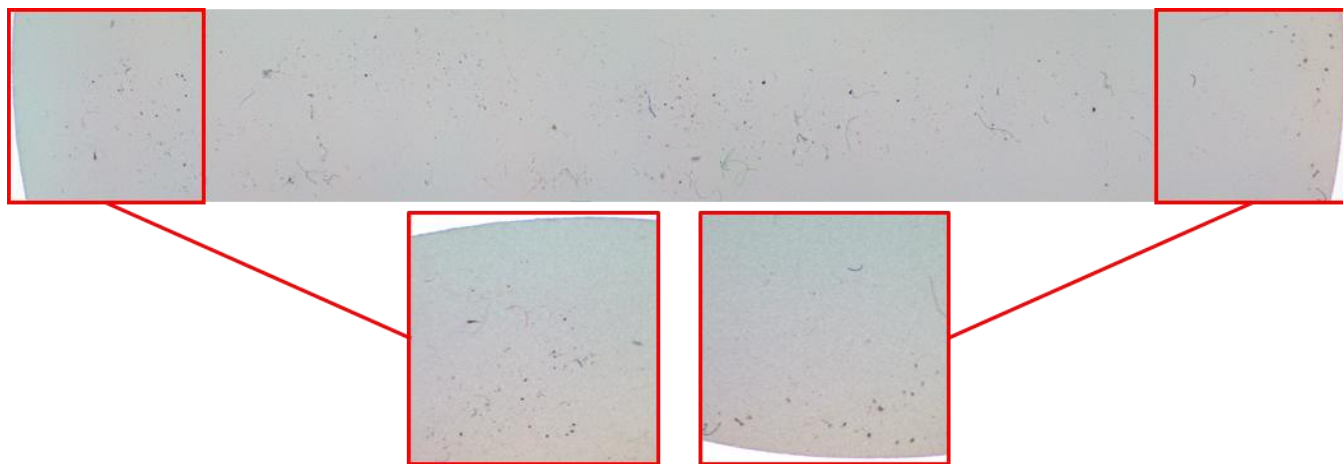

Figure 41. Resulting stitched image with the 1st and 14th images highlighted
- 12) Make sure the stitched image includes all of the images taken of the sample. The easiest way to do this is to look for the edges of the filter, as emphasized in Figure 41.